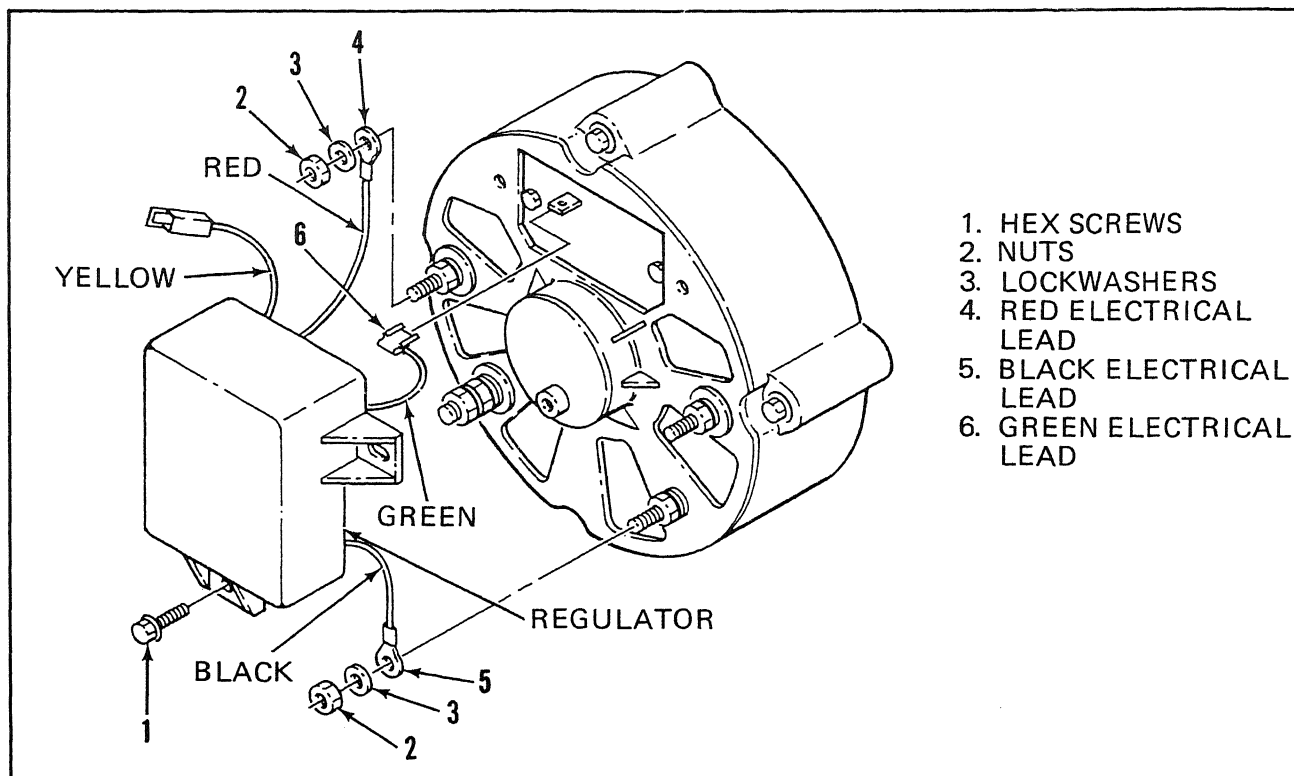
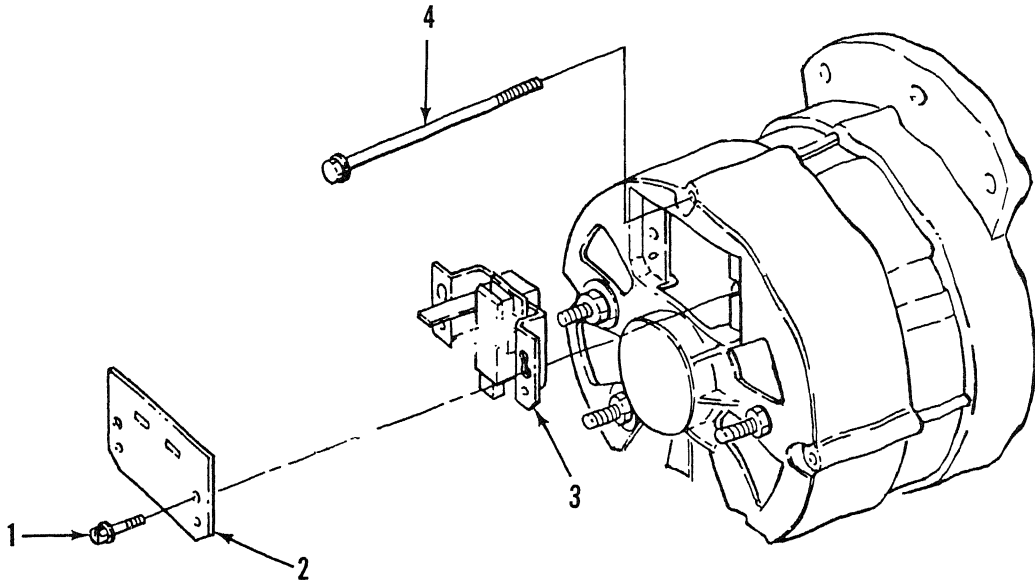

Figure 5-28.6 Regulator Removal
Figure 5-28.7. Brush Assembly Removal
- (1) Remove the hex screws (1, Figure 5-28.6) then pull back regulator and disconnect the green electrical lead (6) from the brush assembly.
- (2) Remove the nuts (2), and lockwashers (3) to release the red electrical lead (4) and black electrical lead (5).
- (3) Refer to Figure 5-28.7 and remove the two hex screws (1), cover (2) and brush assembly (3).
- (4) Mark the front and rear housings for indexing purposes. Remove the four through bolts (4).